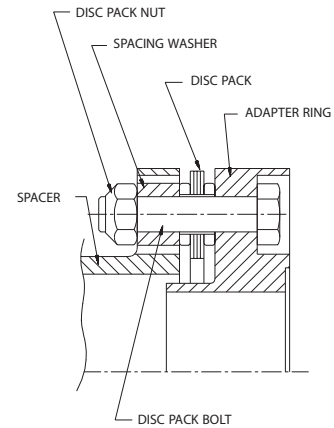

Figure 9. Bolt Disc Pack to Adapter Ring.
6.11 Make sure that the spacer is properly indexed for the large clearance holes to receive the bolt ends. Place the spacing washer and disc pack nut on the bolt. Repeat for the other bolts (see Figure 9).